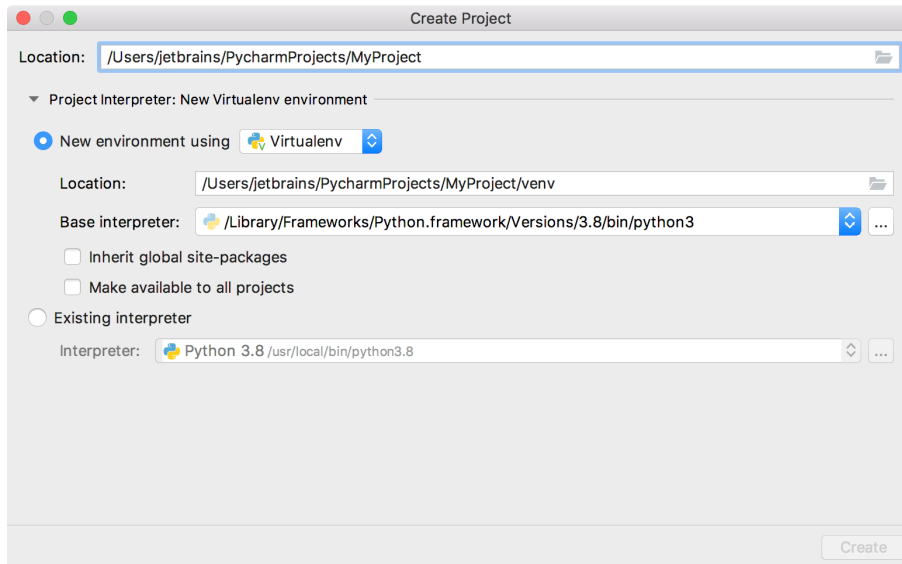

Fig. 28.
- In the New Project dialog as in Fig. 28, specify the project name and its location. The dialog may differ depending on the PyCharm edition.